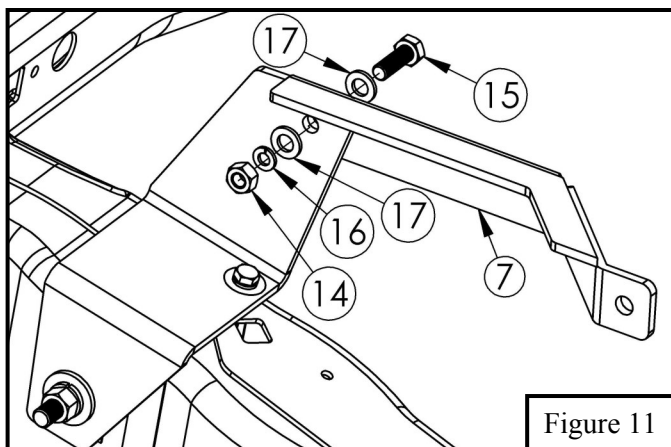

Figure 11
- Insert upper support strap (Item 6/7) through previously trimmed area and loosely secure the upper support strap to mount bracket (Item 4/5) from underneath the vehicle utilizing wrenches or ratchets with socket extensions using (1) M10 hex nut, (1) M10 hex head cap screw, (1) M10 split lock washer and (2) M10 flat washers. See **Figure 11**.